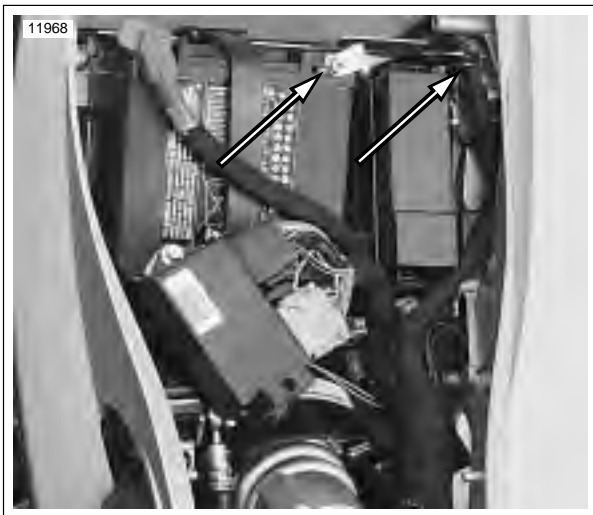

Figure 7-39. Negative Battery Cable and
2. See Figure 7-39. Remove fastener to detach negative battery cable from frame.
- c. See Figure 7-39. Attach negative cable to frame and actuator ground cable. Tighten to 48-72 **in-lbs** (5.4-8.1 Nm).